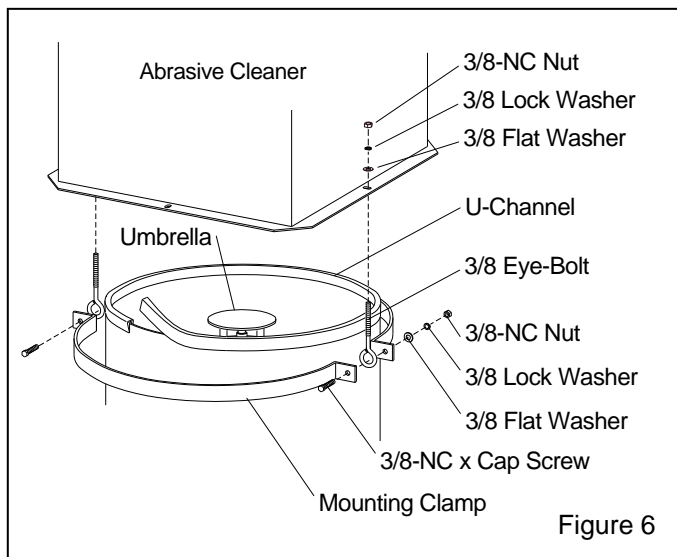

Figure 6
2.3 Installation on a 24-inch Diameter Blast Machine without Flange, Refer to Figure 6.
2.3.1 Loosely attach the mounting clamps to the blast machine, placing the eye-bolts between the clamps as shown in Figure 6. The top of the clamps should be approximately 2" to 3" from the top of the blast machine. Do not tighten the bolts at this time. The abrasive cleaner connections must line up with their connecting components before securing the mounting clamps.